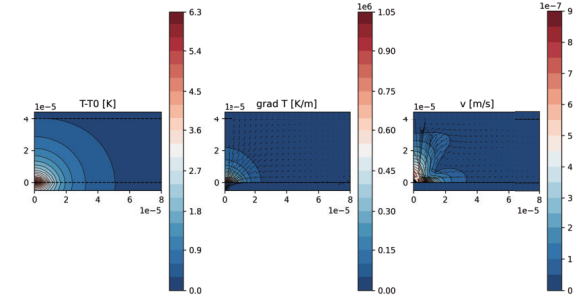

FIG. S1. Examples of the output from the Python code. Computation ends in several seconds.
- **dimensional_quantities.png** (sample png file for case B) is the image file of macroscopic quantities, i.e., temperature increase $\Delta T = T - T_0$ (left), temperature gradient ∇T (center), and flow velocity \mathbf{v} . (see, e.g., Fig. S1.)
- When large r is concerned, `Nm` and `s_max` should be more carefully selected. For instance, see the temperature gradient of Fig. S1(b). Near $z = 0$ and $r = 8 \times 10^{-5}$ m, the careful observation tells you that the vectors there look nonphysical, and actually it is nonphysical. This is typical behavior when `Nm` is not large enough. An ad hoc approach